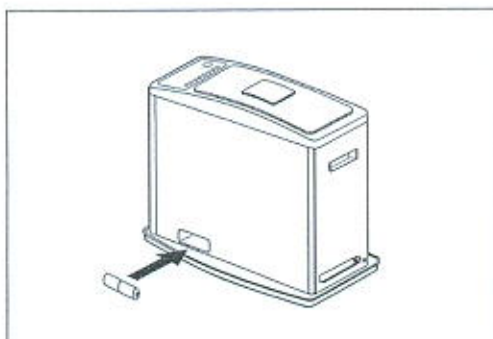
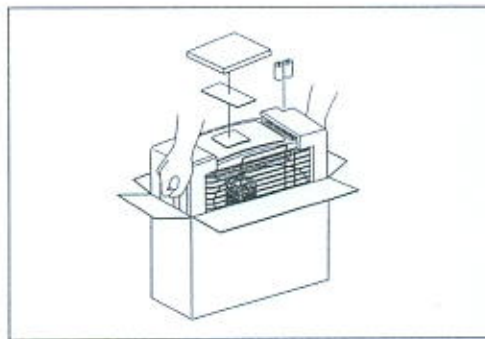

Fig. 12
Fig. 13
Carefully following the instructions for storage given below will insure that your heater will operate efficiently and safely next season (Fig. 12/ Fig. 13).
- Remove the batteries (Fig. 12) from the battery case before storing the heater to prevent leakage and corrosion. Remove the 5 cabinet screws and lift off the cabinet and grille assembly. Remove the burner. Remove the wick adjuster from the fuel reservoir. Thoroughly dry the inside of the fuel tank. Using a screwdriver and/or a brush, remove any carbon, tar or soot that might have accumulated on the wick adjuster, wick guide or burner.